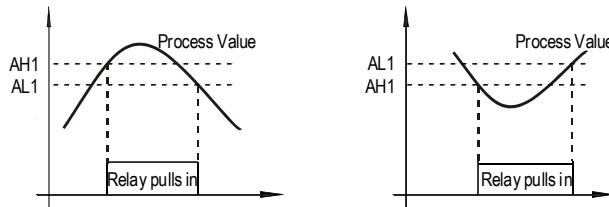

Figure 5. Relay (J1) action when the alarm is set as high alarm (left) and low alarm (right).
- 2) Set AH1>AL1, relay is for high limit alarm. See Figure 5 (left).
- 3) Set AH1<AL1, relay is for low limit alarm. See Figure. 5 (right).